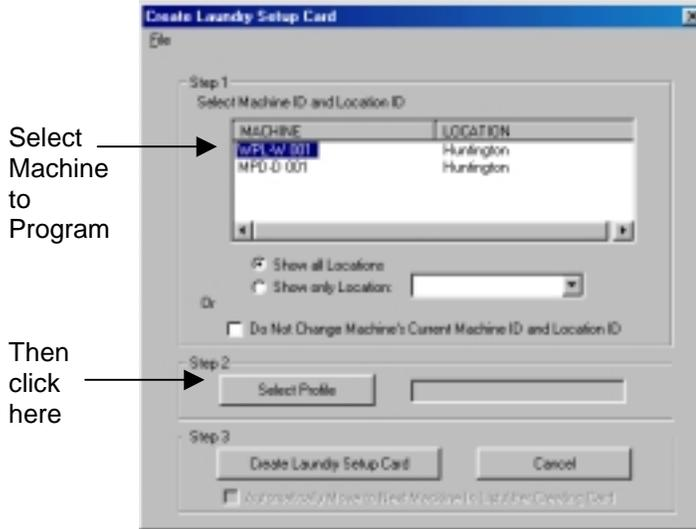

Figure 3.22 Selecting a Laundry Machine to Program
3. In the Create Laundry Setup Card window click on the machine to set up (Figure 3.22).
4. Click the Select Profile button (Figure 3.22). Select the profile for the Laundry Machine that is being programmed, and click the **Select** button (Figure 3.23).